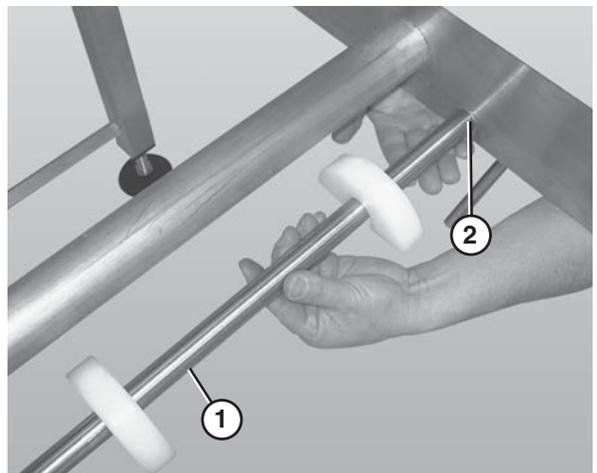

Figure 46
1. Remove the belt returns by pushing up on the return shaft (Figure 46, item 1) and sliding it through the large hole (Figure 46, item 2) in the frame.
2. Lower the opposite end of the return shaft (Figure 46, item 1) and slide it out of the frame.